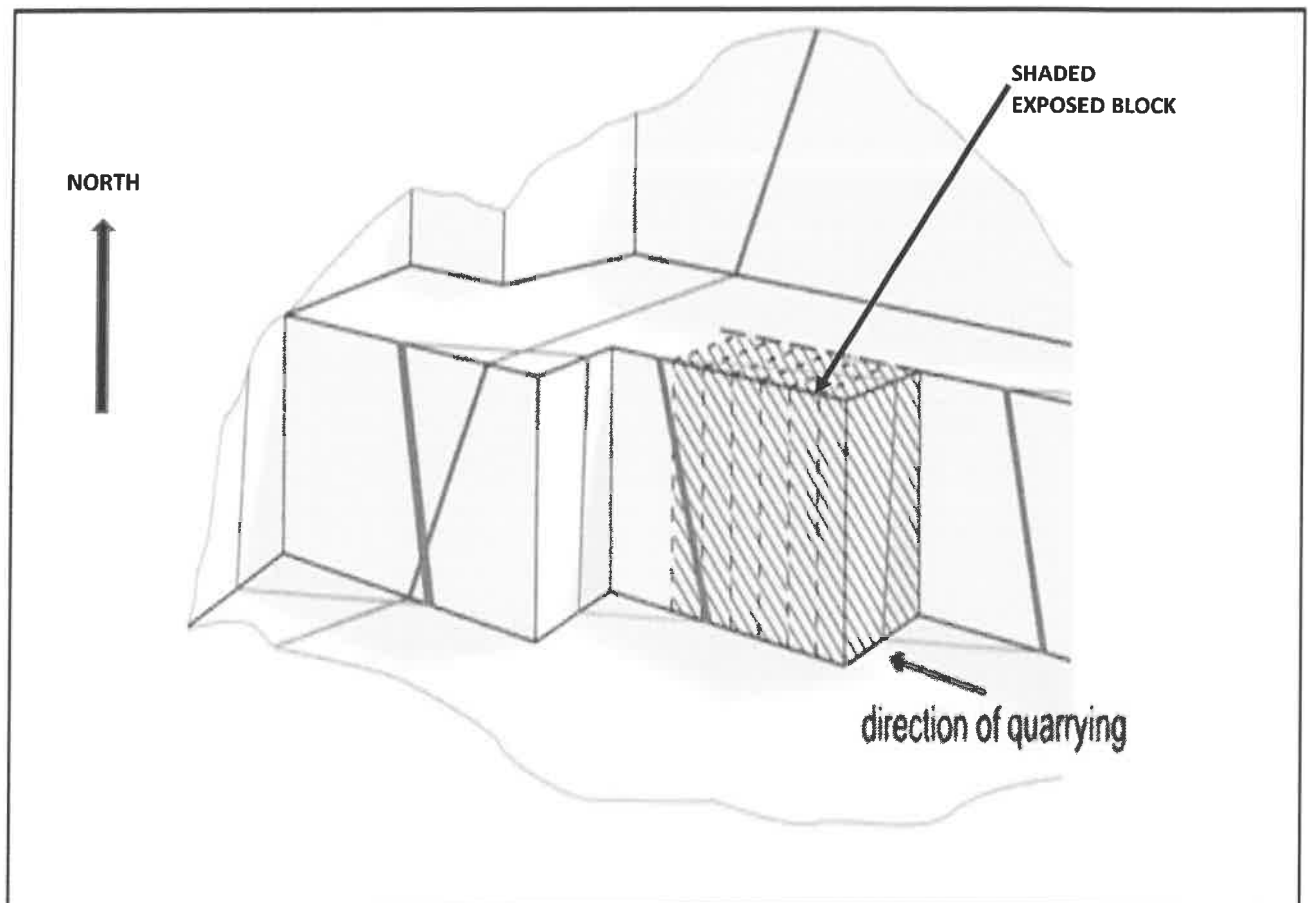

Figure 1 : For Questions 3a
- a. **Figure 1** shows an exposed high wall of quarry. **Ignore** the *direction of quarrying* denoted in the picture. ALL THE LINES IN THE FIGURE REPRESENTS NATURAL JOINTS/DISCONTINUITIES.